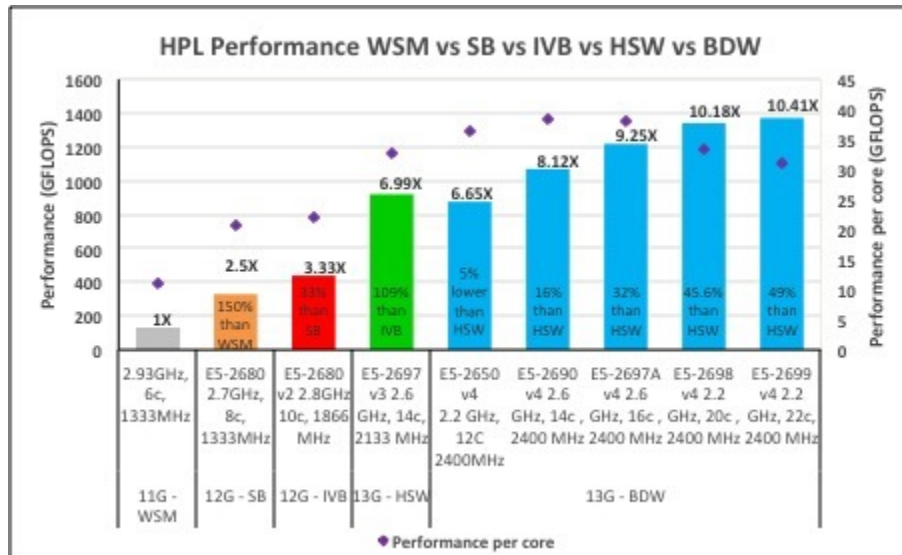

Figure 5: Comparing HPL Performance across multiple generations of Intel processors
Figure 5 plots generation over generation performance comparison for HPL with Intel Westmere (WSM), Sandy Bridge (SB), Ivy-Bridge (IVB), Haswell (HSW) and Broadwell (BDW) Processors. The percentages on the bars shows the HPL performance improvement than their previous generation processor. The graph shows that the 14 core Broadwell processor with similar frequencies performs 16% better than 14 core Haswell processor for the HPL benchmark. Broadwell processors measure better power efficiencies than the Haswell processors. The top bin 22 core Broadwell processor performance is 49% better than 14 core Haswell processor. The purple diamonds in the graph show the performance per core. The “X” value on top of every bar shows acceleration over 6 core WSM processor.